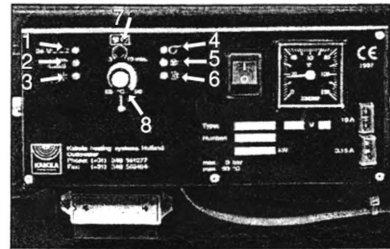

Figure 10
4. Lift the burner a little (figure 10) according to 7A;
5. Fasten bolt 7 (figure 10) on the flange to clamp the burner;
To connect the filter to the boiler follow the procedure below (see also figure 10)
5. Starting of the oilburner (figure 10)